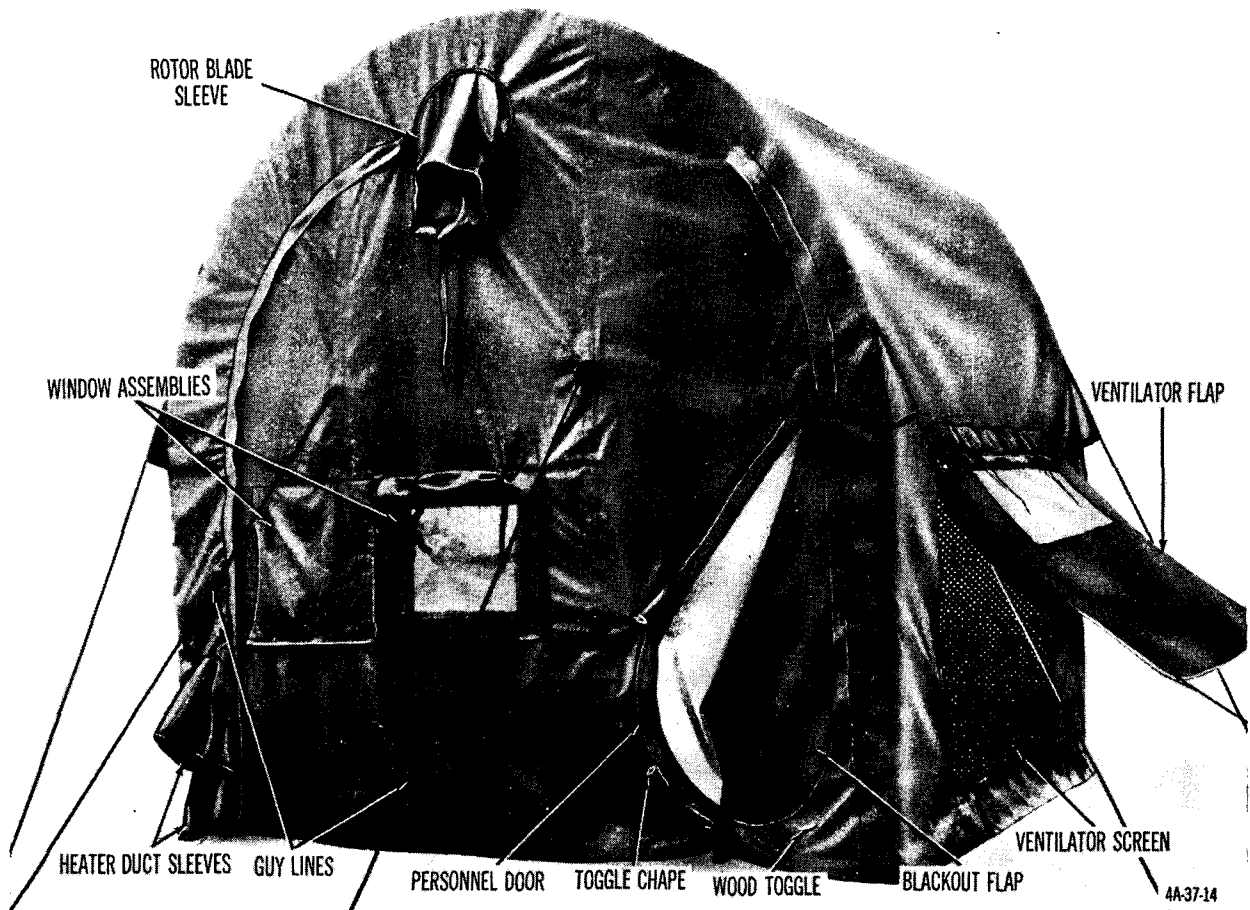

Figure 94. Tent, aviation maintenance, small.
- (3) Place rolled tent on cover and secure cover with the provided ropes.
a. Use. The tent, aviation maintenance, small (fig. 94), is designed to provide all-weather environmental protection to personnel performing maintenance on O-1, U-6A, and OH-13 aircraft.
- (1) *Tabulated data.*
- (j) Measure out 6 feet from the bottom of the tent end section, in line with the end assembly guy lines, and drive two tent pins into the ground. Attach and tighten guy lines to tent pins (fig. 94).
- (4) *Attaching tent liner to inside of tent.*
- (5) *Installing wiring harness assembly.*
- (b) When placing OH-13 aircraft into tent, pass the forward aircraft rotor blade through rotor blade sleeve on end portion of tent roof and end assembly (fig. 94). Secure sleeve around rotor blade with tie tapes.